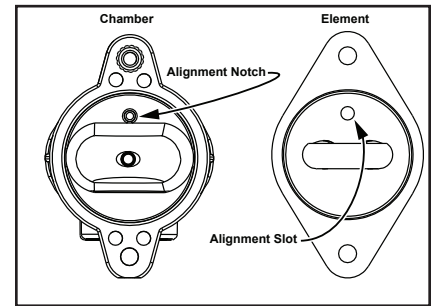

Figure 14 - Chamber Alignment Notch, Element Slot.
- 2 Install the element, mating the element slot with the chamber alignment notch. Secure the element by sequentially tightening the mounting bracket screws. DO NOT overtighten screws. See Figure 14.